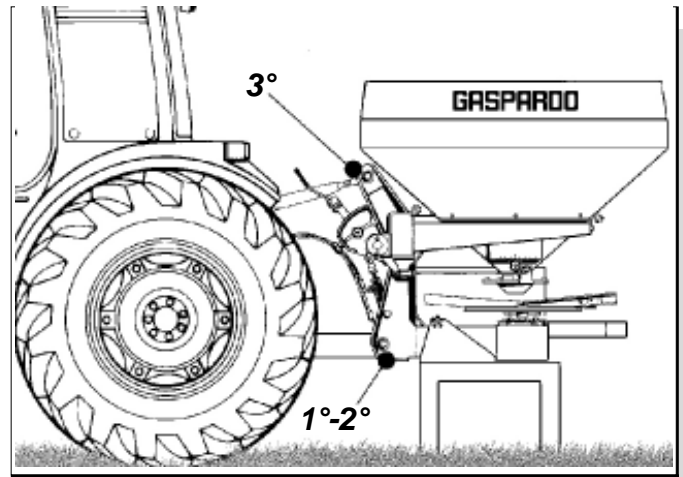

fig. 10
- 5) Lift the spreader from the ground using the tractor lifting bars. Unscrew the handwheels (A) and take away the two stands (B) (Fig10).